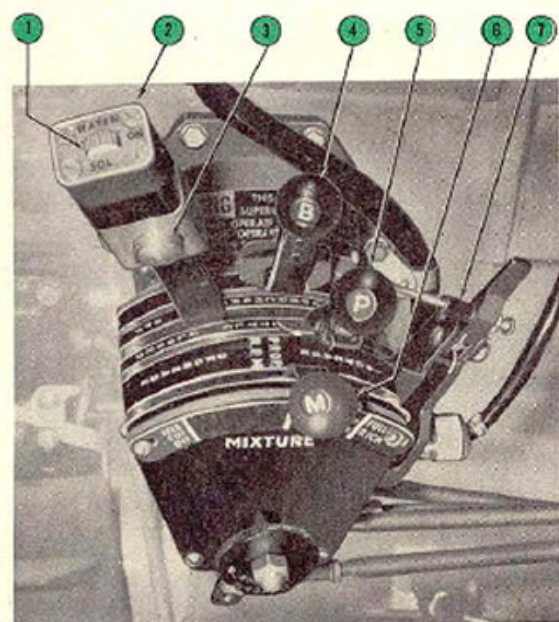

Figure 6—Engine Control Quadrant
*c.* The Hamilton Standard Hydromatic propeller is controlled by a propeller lever (5, figure 6) on the control quadrant.
b. Power controls are mounted in the conventional quadrant and consist of throttle, boost, mixture, and propeller levers. Throttle, boost, and propeller levers are equipped with spring-loaded latches to permit interconnected operation. An adjustable take-off stop, which can be bypassed, is provided in the path of the throttle. A momentary switch (1, figure 6) is mounted on the throttle lever to control operation of the water injection system.
b. The quantity of supercharged air directed to the carburetor is determined by the setting of the booster lever on the engine control quadrant. (See figure 6.) This lever sets an engine-oil operated regulator which is balanced against exhaust pressure. When engine exhaust pressure drops, the supercharger regulator closes a waste gate in each exhaust pipe, which permits more of the engine exhaust gases to be directed against the turbine wheel of the supercharger, thus maintaining boost.
The water injection system permits operation at War Emergency Power of 64 in. Hg. manifold pressure and approximately a 30 per cent increase over military horsepower. The system consists of a 30 US (25 Imperial)-gallon supply tank, an engine-driven pump, a water regulator, a derichment valve assembly, and an automatic booster-reset mechanism. The system is controlled by a momentary switch (1, figure 6) on the throttle lever which opens a solenoid valve admitting water to the regulator which meters it to the engine. At the same time, water pressure actuates the booster-reset mechanism which increases manifold pressure. Ambient temperatures in the engine compartment prevent freezing of water supply when the engine is running and in flight; however, if the